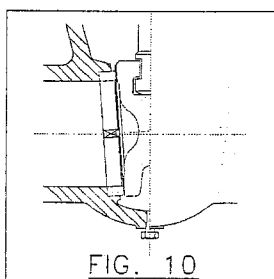

FIG. 10
- *Figure 10* ► it represents a plug of drain connection its location will be done according to the customer's instructions.